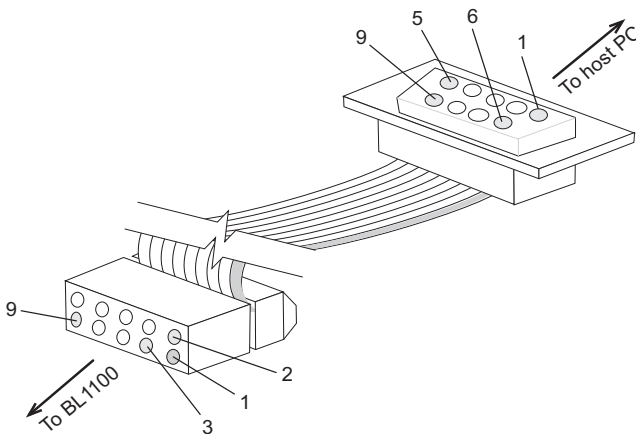
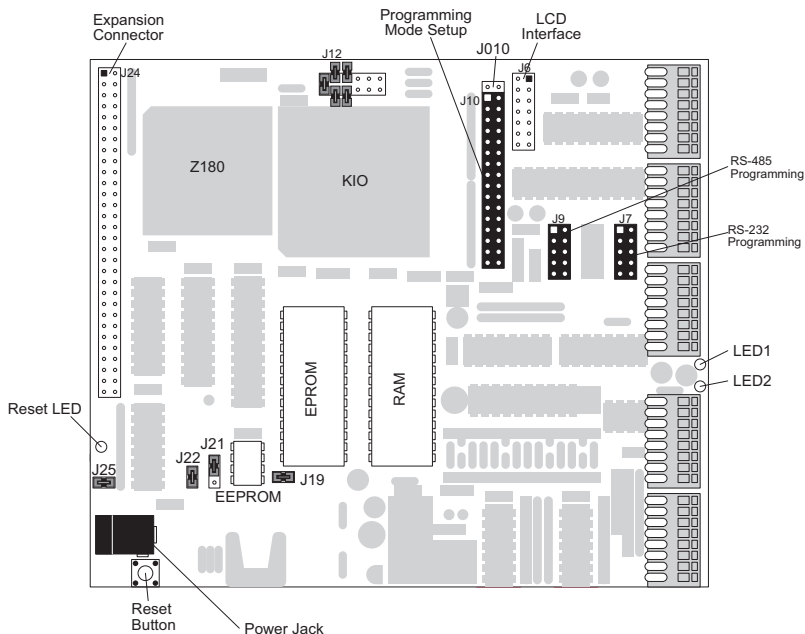
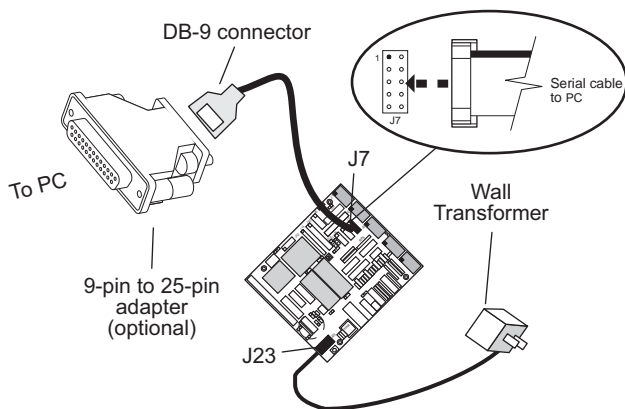

Figure 2-1. Programming Cable
Figure 2-2. Programming Headers and Accessories
Figure 2-3. Programming Cable and Power Connections
2. The BL1100 is factory configured for RS-232 programming at 19,200 bps. Use the programming cable provided in the Developer's Kit (see Figure 2-1) to connect header J7 (shown in Figure 2-2) to the host PC COM1 serial port as shown in Figure 2-3.